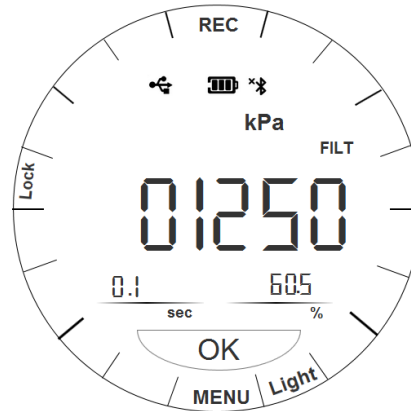

Figure 9 Data logging setting interface
2.7.1 Click REC on the menu bar to enter the data logging setting interface, as shown in Figure 9, the main display area displays the real-time pressure value 01250, the left side of the sub display area displays the logging interval 0.1 sec, click it to edit the time interval, and the right side displays the used storage space in percentage, click it to delete the stored data. Click OK to start logging pressure data.